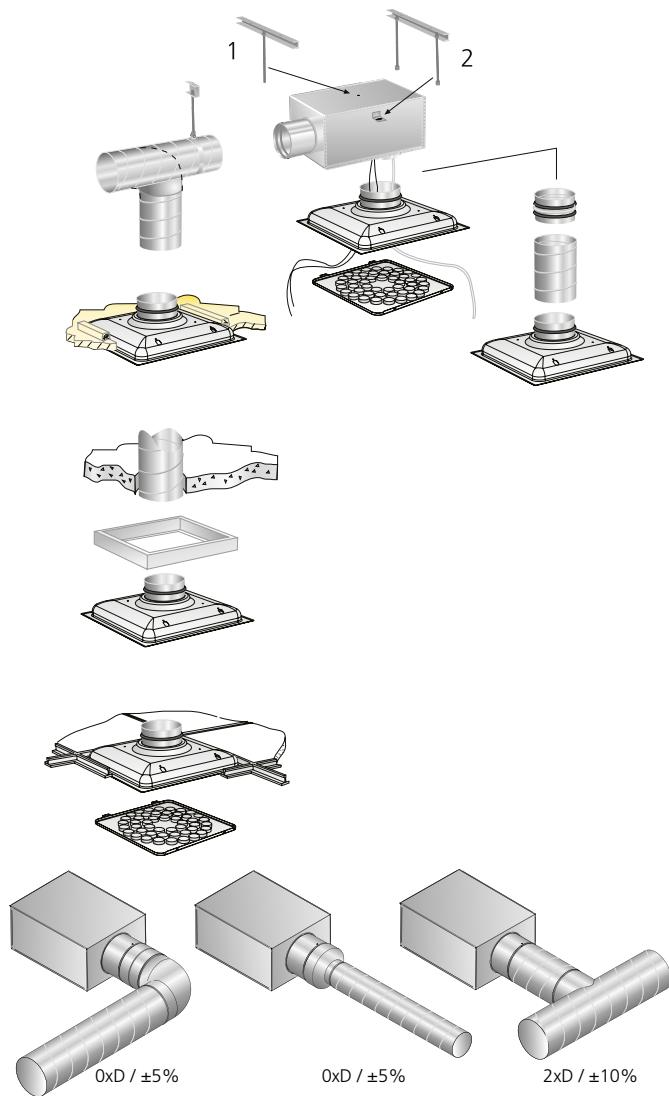

Figure 2. Installation options for the ALS commissioning box.
- The distance between the commissioning box and the air diffuser can be increased up to 500 mm with a circular duct, without having to lengthen the measuring tubes and damper adjustment cords. See figure 2.
- Measurement accuracy and straight section requirement before the commissioning box. See Figure 2.
- Figure 2 shows a bend, a change in dimension and T-piece.